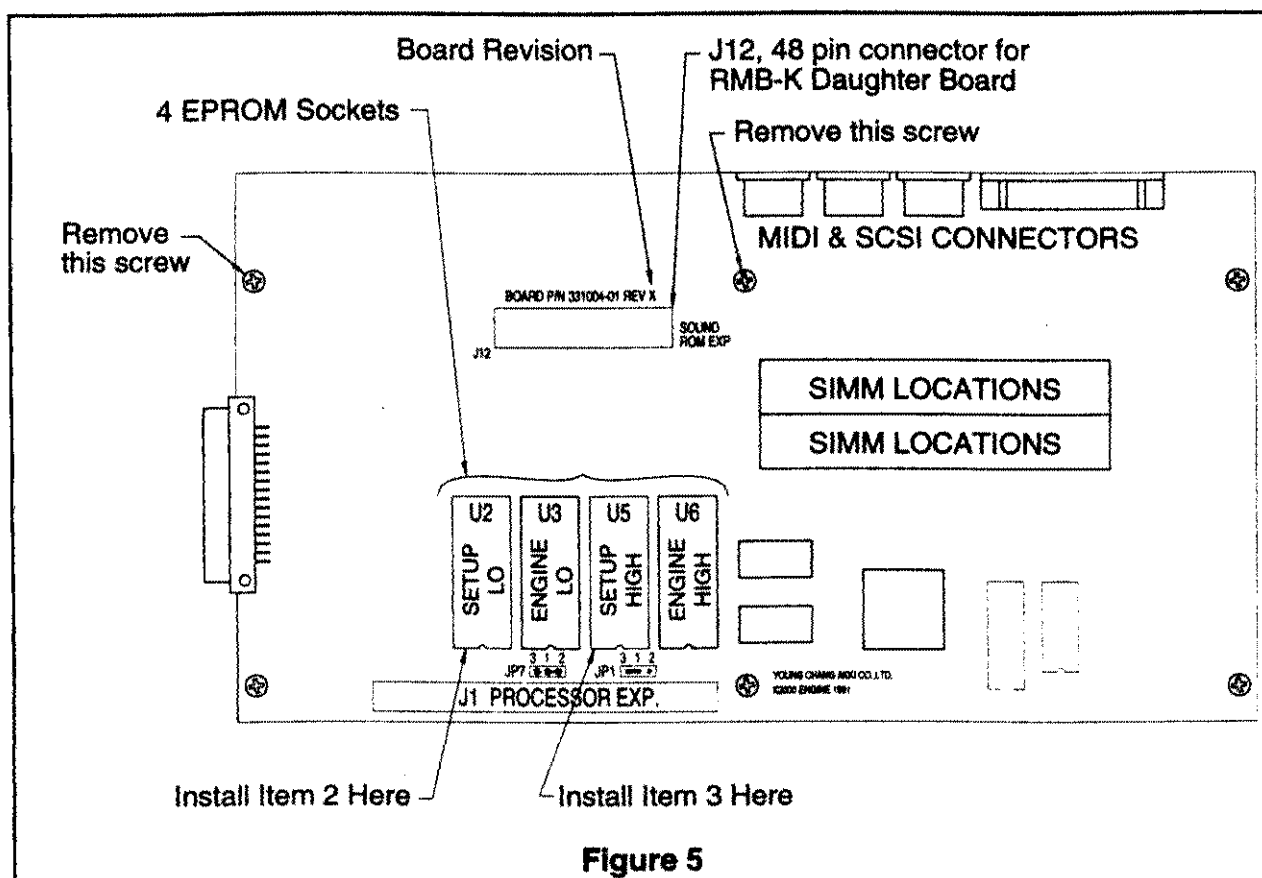

Figure 5
2. See Figure 5. Looking at the Engine PCB with the MIDI & SCSI connectors facing away from you, locate the four EPROM sockets. They are on the lower left half of the board above J1, the 64 pin connector labeled "PROCESSOR EXP."
3. See Figure 5. Find the two Setup EPROMs. Carefully remove the EPROMs using an EPROM puller.
6. See Figure 5. Looking at the Engine PCB with the MIDI & SCSI connectors facing away from you, locate the four EPROM sockets. They are on the lower left half of the board above J1, the 64 pin connector labeled "PROCESSOR EXP."
7. See Figure 5. Find the two Setup EPROMs. Carefully remove the EPROMs using an EPROM puller.